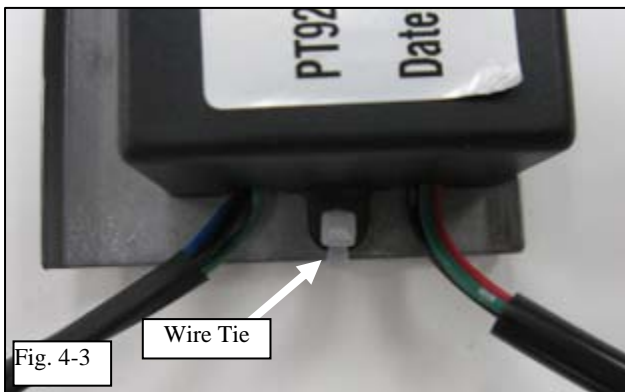

Fig. 4-3
- (1) Orient the wire tie so that the head is on the front side of the bracket.
- (4) Trim the wire tie.
- (5) Secure the ECU to the bracket using the bottom mounting hole with one (1) small wire tie as shown. (Fig. 4-3)